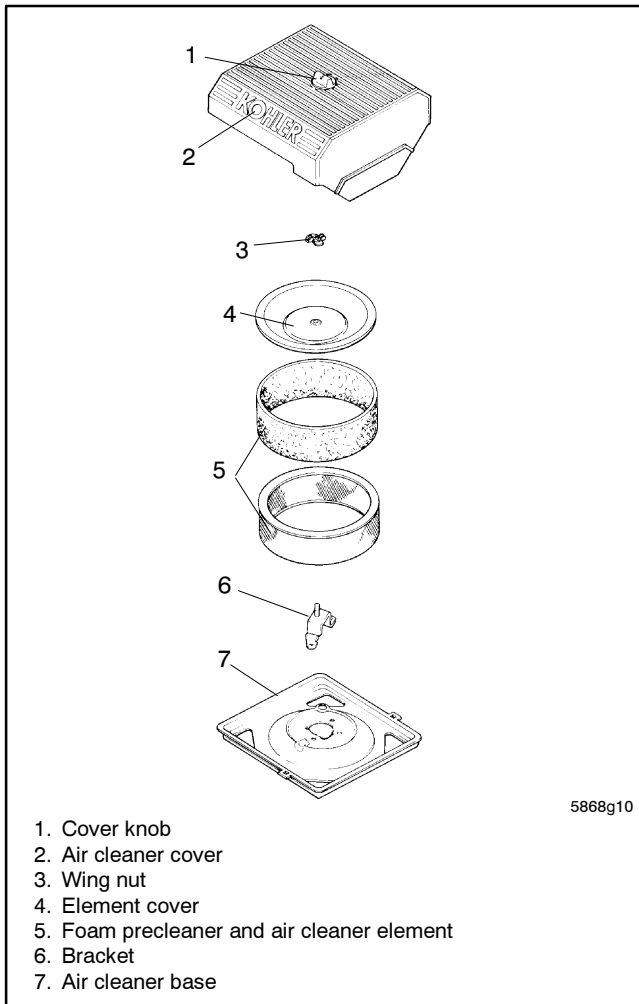

Figure 1 Air Cleaner Components
- 2. Remove the air cleaner assembly. See Figure 1.**
6.4 Reinstall the air cleaner element and covers. See Figure 1.